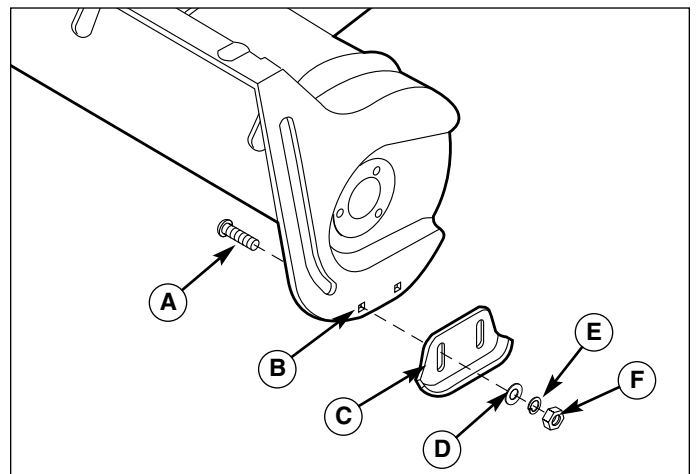

Figure 19. Skid Shoe Installation
1. Install the skid shoes using 3/8-16 x 3/4" carriage bolts, washers, lockwashers, and nuts as shown in Figure 19.